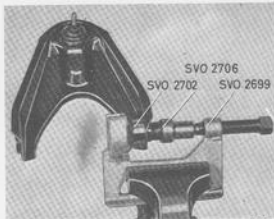

Fig. 6-35. Fitting first rubber bush, upper control arm
3. Hold press tool 2699 firmly in a vice. Press in one of the bushes with tool 2702 and tool 2706, see Fig. 6-35.